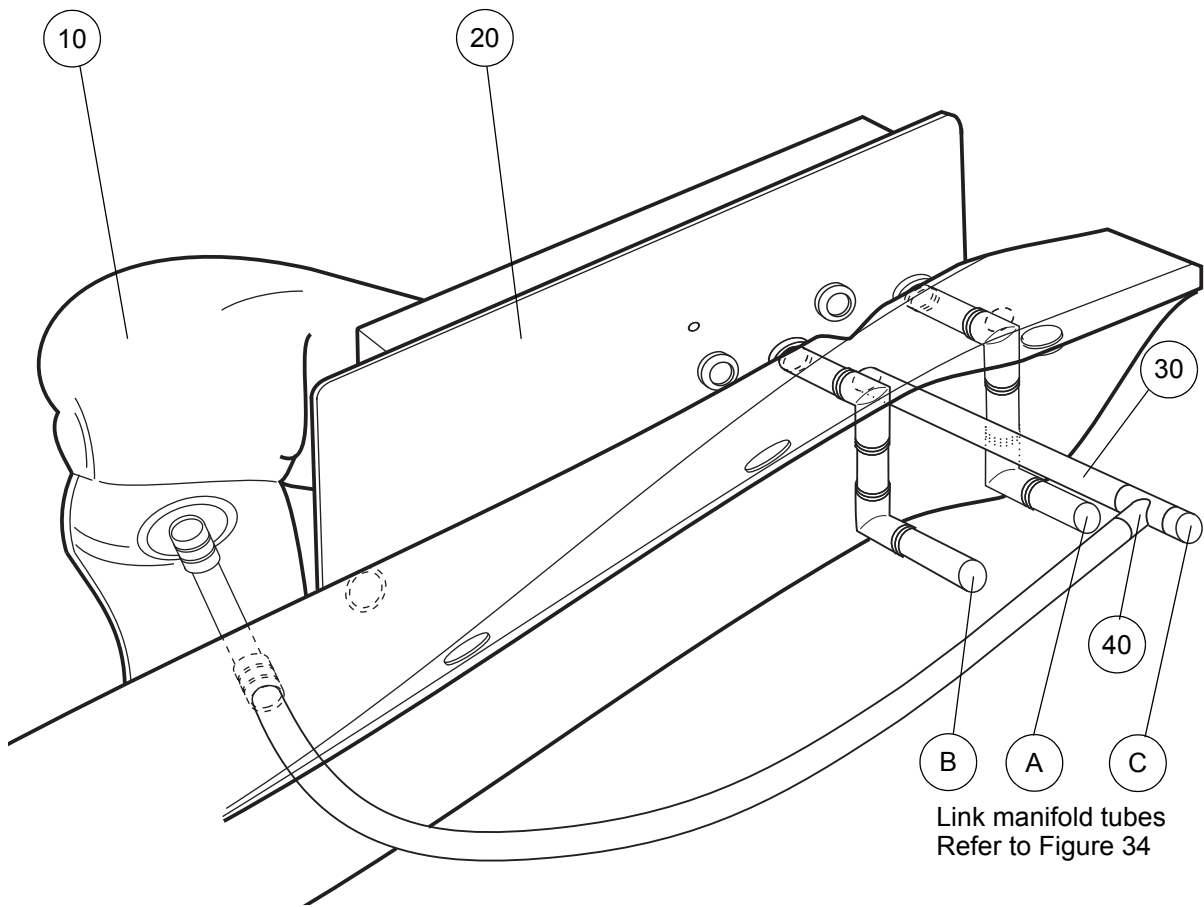
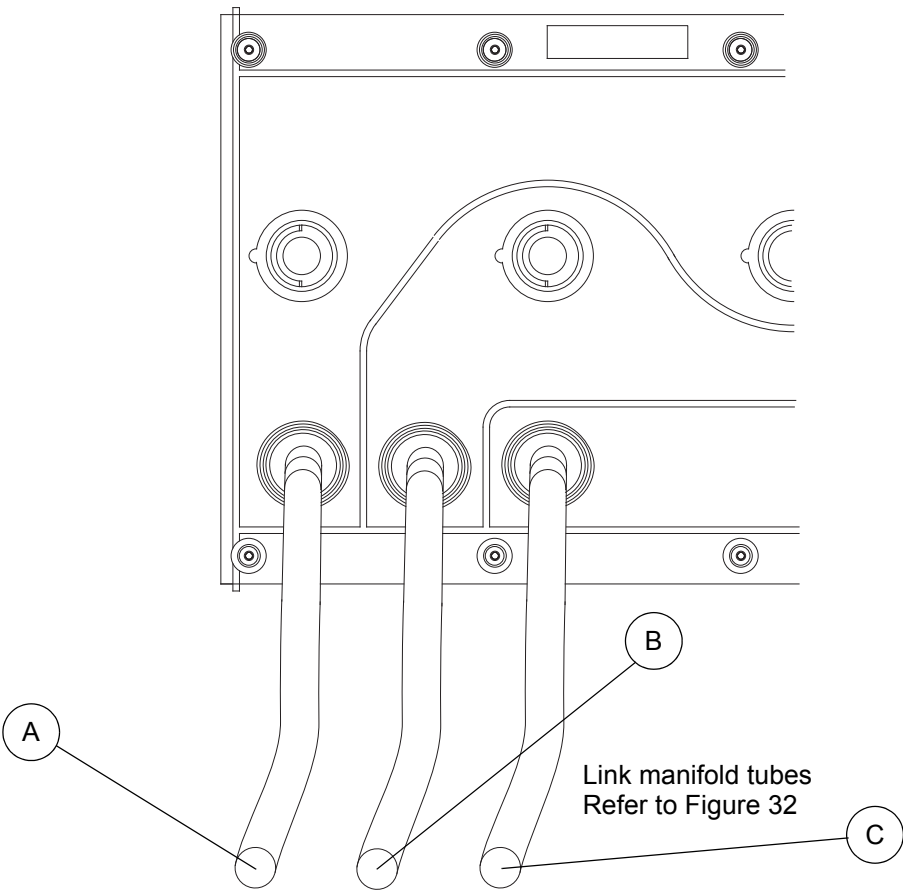

Figure 36 - CPR and Heel Protector Connections to the Link Manifold assemblies
Figure 38 - Manifold connections
- 9.7 Remove the Link Manifolds from the Main Manifold (Fig 36, Items A, B and C).
- 11.4 Disconnect the heel protector tubing (Fig 36, Item 60) at the link manifold tee.
- 12.1 Connect the Heel Protector tubing (Fig 36, Item 60) at the link Tee manifold. Ensure that the tubes marked A, B and C connect to the respective connections (Figure 38)